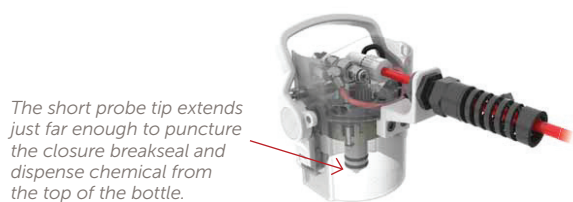

Figure 4. ErgoNOW connector with short probe option.
The ErgoNOW connector can be ordered with a “short probe” option (Figure 4). This option is for pressure dispense (PD) applications only – the short probe is not suitable for pump dispense applications.